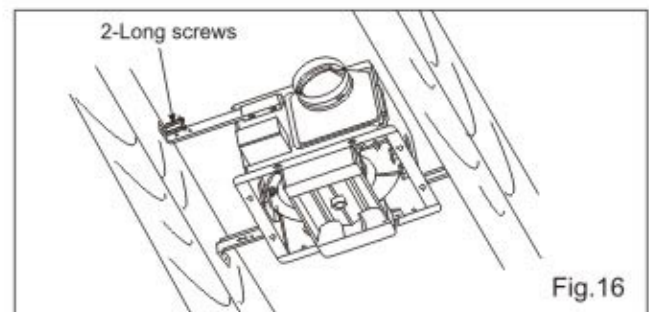
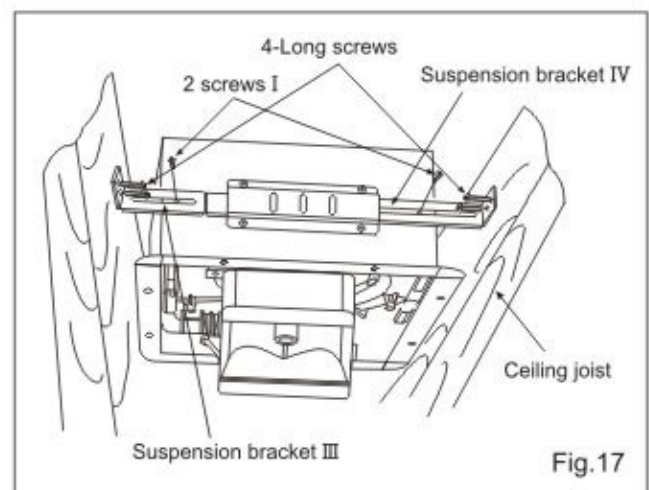

Fig.16
Fig.17
(Fig.16, Fig.17)
5. Secure the suspension bracket III & IV to the fan body using short screw I.(Fig. 17)